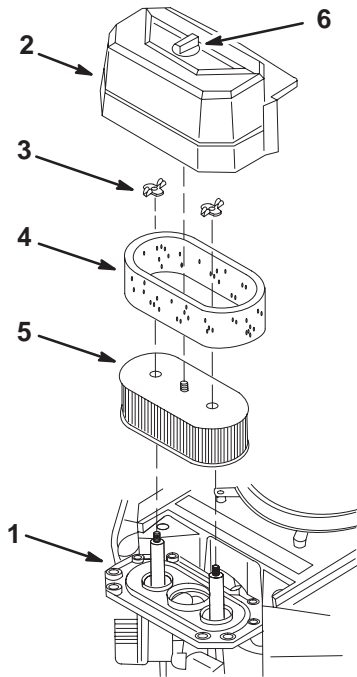

Figure 30
3. Clean around the air cleaner to prevent dirt from getting into the engine and causing damage (Fig. 30).
4. Unscrew the cover knob and remove the air cleaner cover (Fig. 30).
5. Unscrew the 2 wing nuts and remove the air cleaner assembly (Fig. 30).
6. **Carefully** pull the foam element off the paper element (Fig. 30).
1. Lightly tap the element on a flat surface to remove dust and dirt (Fig. 30).
1. Carefully slide the foam element onto the paper air cleaner element (Fig. 30).
2. Place the air cleaner assembly onto the air cleaner base and secure it with the nut (Fig. 30).
3. Place the air cleaner cover into position and tighten the cover knob (Fig. 30).